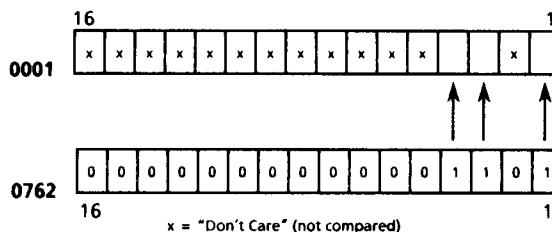

Figure 11.9 Input Advance Condition Satisfied
6. Step advance to step #1 is now complete. Assuming no Operating Mode register bits are set, the next step advance occurs when bits 1, 3 and 4 (specified in register 0762) of register 0001 (pointed at by register 0754) are set to "1" as shown in Figure 11.9 below.